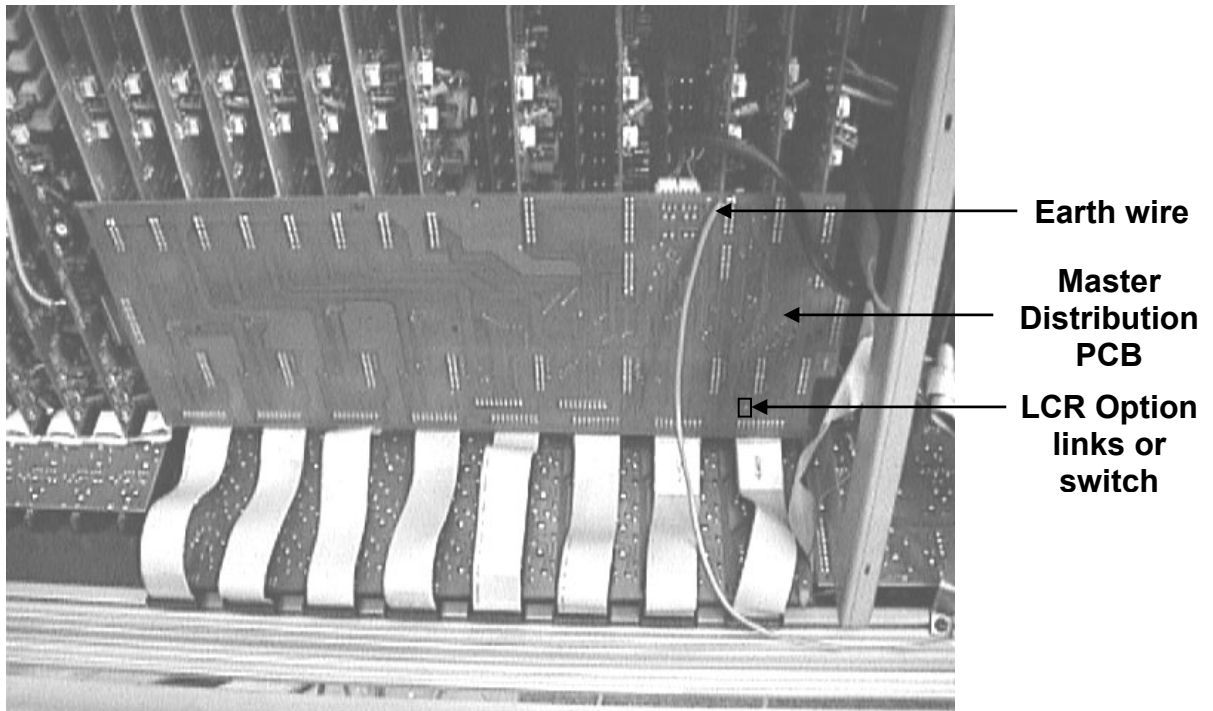

fig.7
- 2) Locate the **Master Distribution PCB** assembly positioned near the centre of the console (see fig.7).